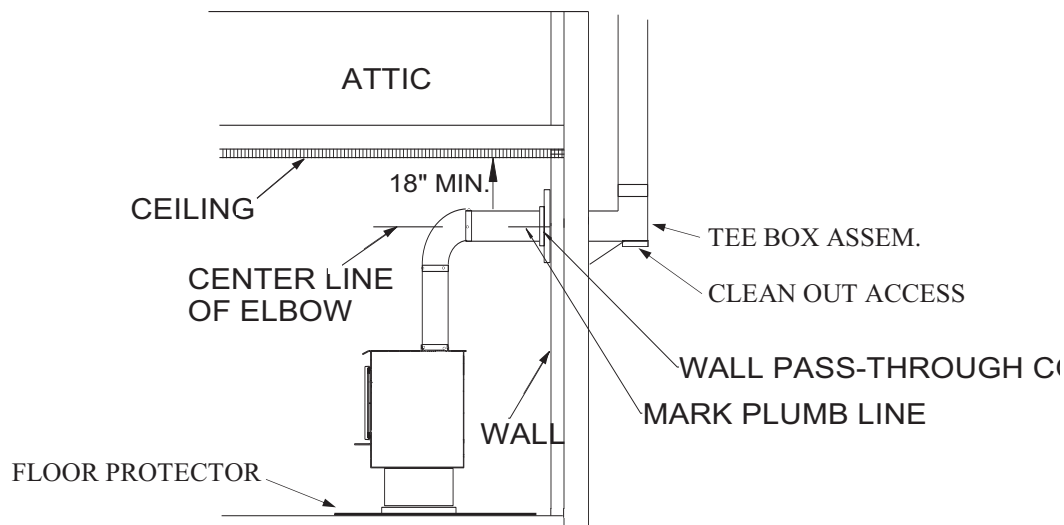

Figure 15
1. Mark plumb line on wall directly behind center of heater. (See Figure 15).
NOTE: When using 24# ga. minimum blue or black steel pipe, maintain 18" between pipe and ceiling. (See Figure 15).
3. Measure up so there will be at least 1/4" rise per foot of horizontal connector pipe, maintaining clearances to ceiling as noted in (Figure 15). This will give you center of hole for chimney penetration.